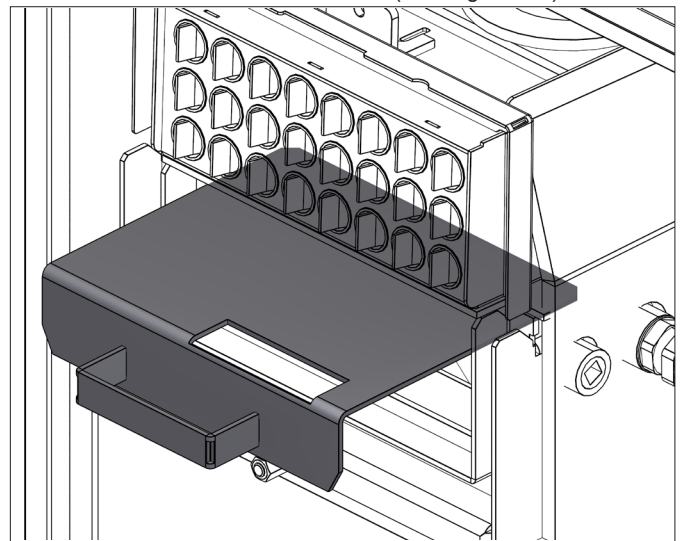

Figure 4-5: Removing baffles from boiler shell
18. Remove baffles from boiler shell. (See Figure 4-5).